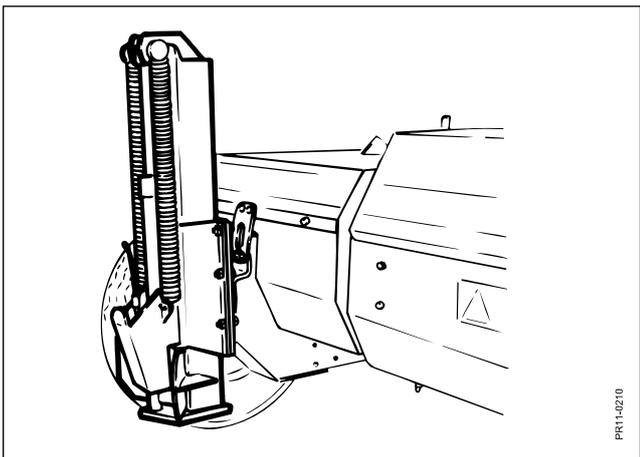

Fig. 3.3
**Fig. 3.3** For connection of a trailer, the machine must be reversed to the drawbar of the trailer and the hitch eye of the trailer must be caught by the hitch hook. Lift the trailer by the hydraulic system until the latch **A** is engaged and locks the hitch system. Take the